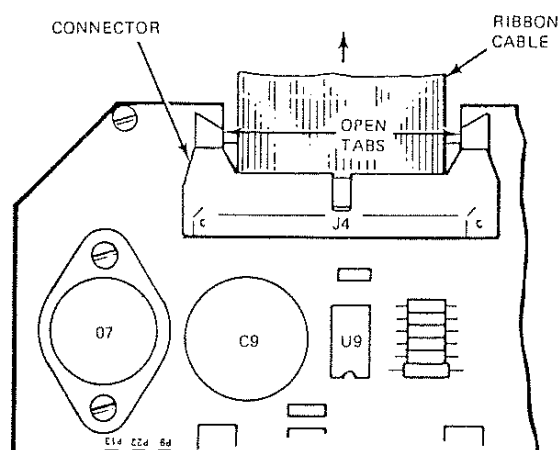

Figure 19.
5. Disconnect remaining ribbon cable connected to power supply PWA, as shown in Figure 19.